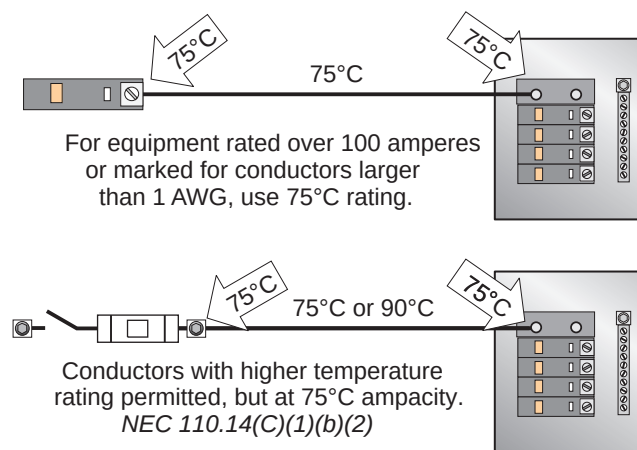

FIGURE 4-7 Limitations imposed by temperature ratings of terminals for conductors larger than 1 AWG. (Delmar/Cengage Learning)
NEC 110.14(C)(1) says that for equipment rated over 100 amperes (or marked for conductors larger than 1 AWG), the allowable ampacity values found in the 75°C column of *NEC Table 310.15(B)(16)* are generally to be used, Figure 4-7. For example, when installing Type THHN conductors that have 90°C insulation, the allowable ampacity values